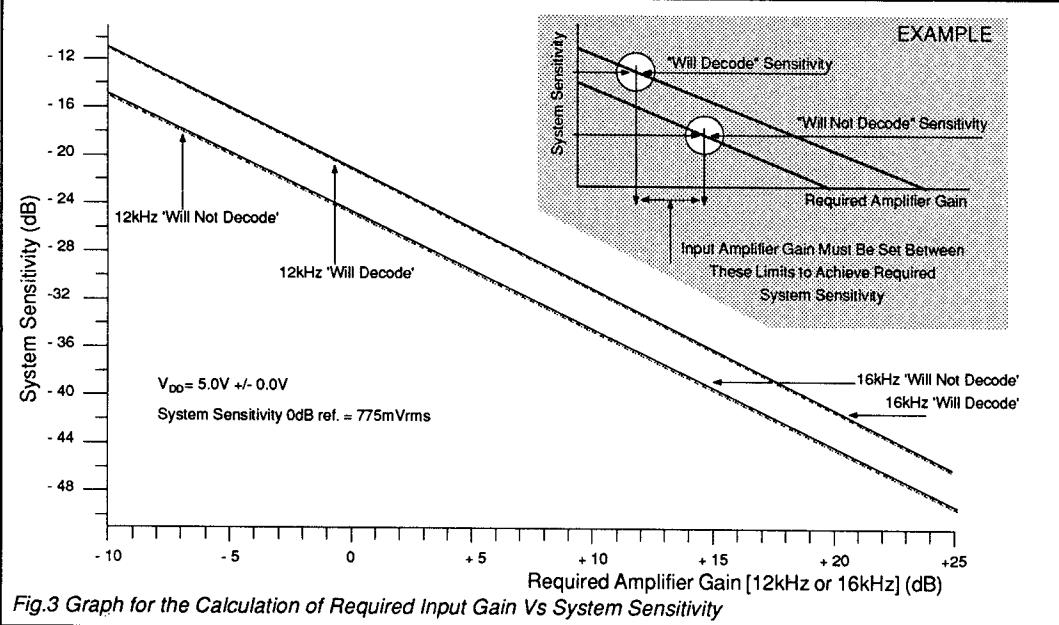

Fig.3 Graph for the Calculation of Required Input Gain Vs System Sensitivity
2. Input Amplifier gain components (Figure 2 (a & b) — these components set the gain required (Figure 3) to achieve the various National Level Specifications.
Apply the system 'Will' and 'Will-Not' Decode sensitivity values ('Y' axis) to the relevant graph in Figure 3. The 'X' axis indicates the input gain area required.
7. With the input gains set to unity. Input gain requirements are calculated with reference to Figure 3.